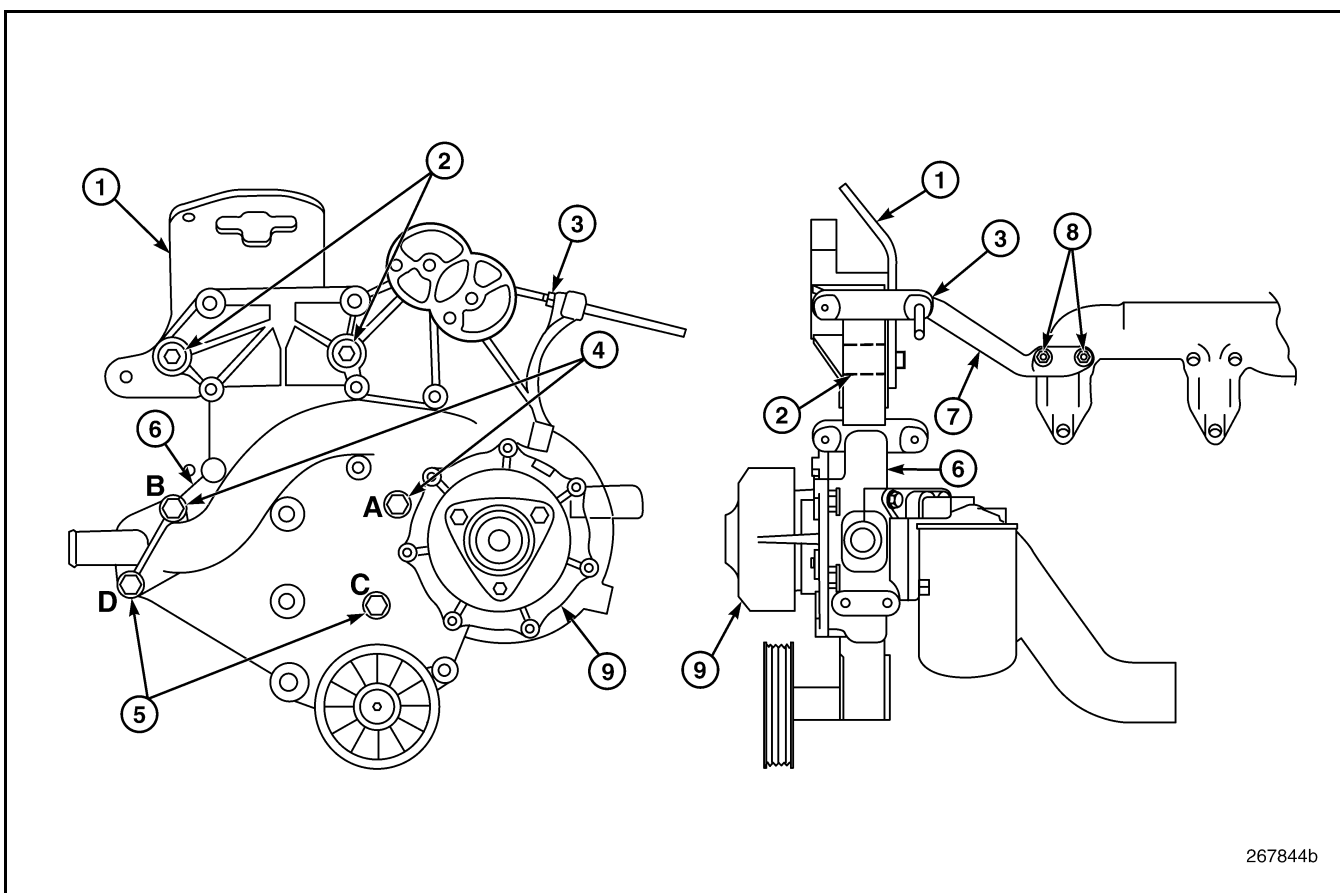

Figure 406 — Water Pump Installation
The ASET™ AC water pump assembly is completely redesigned with very different and essential steps required for proper installation. Refer to Figure 406 as you work through the procedure.
5. Place the engine lifting bracket in position (bend angle facing forward) between the housing and cylinder head (Figure 406). Make sure the bracket mounting holes clear and slip into position on the insert collars.
8. Make sure the lifting bracket mounting holes are properly positioned on the insert collars and then tighten the mid-position and low-position capscrews to specification, 69 lb-ft (94 N•m), in sequence A, B, C, D shown in Figure 406.